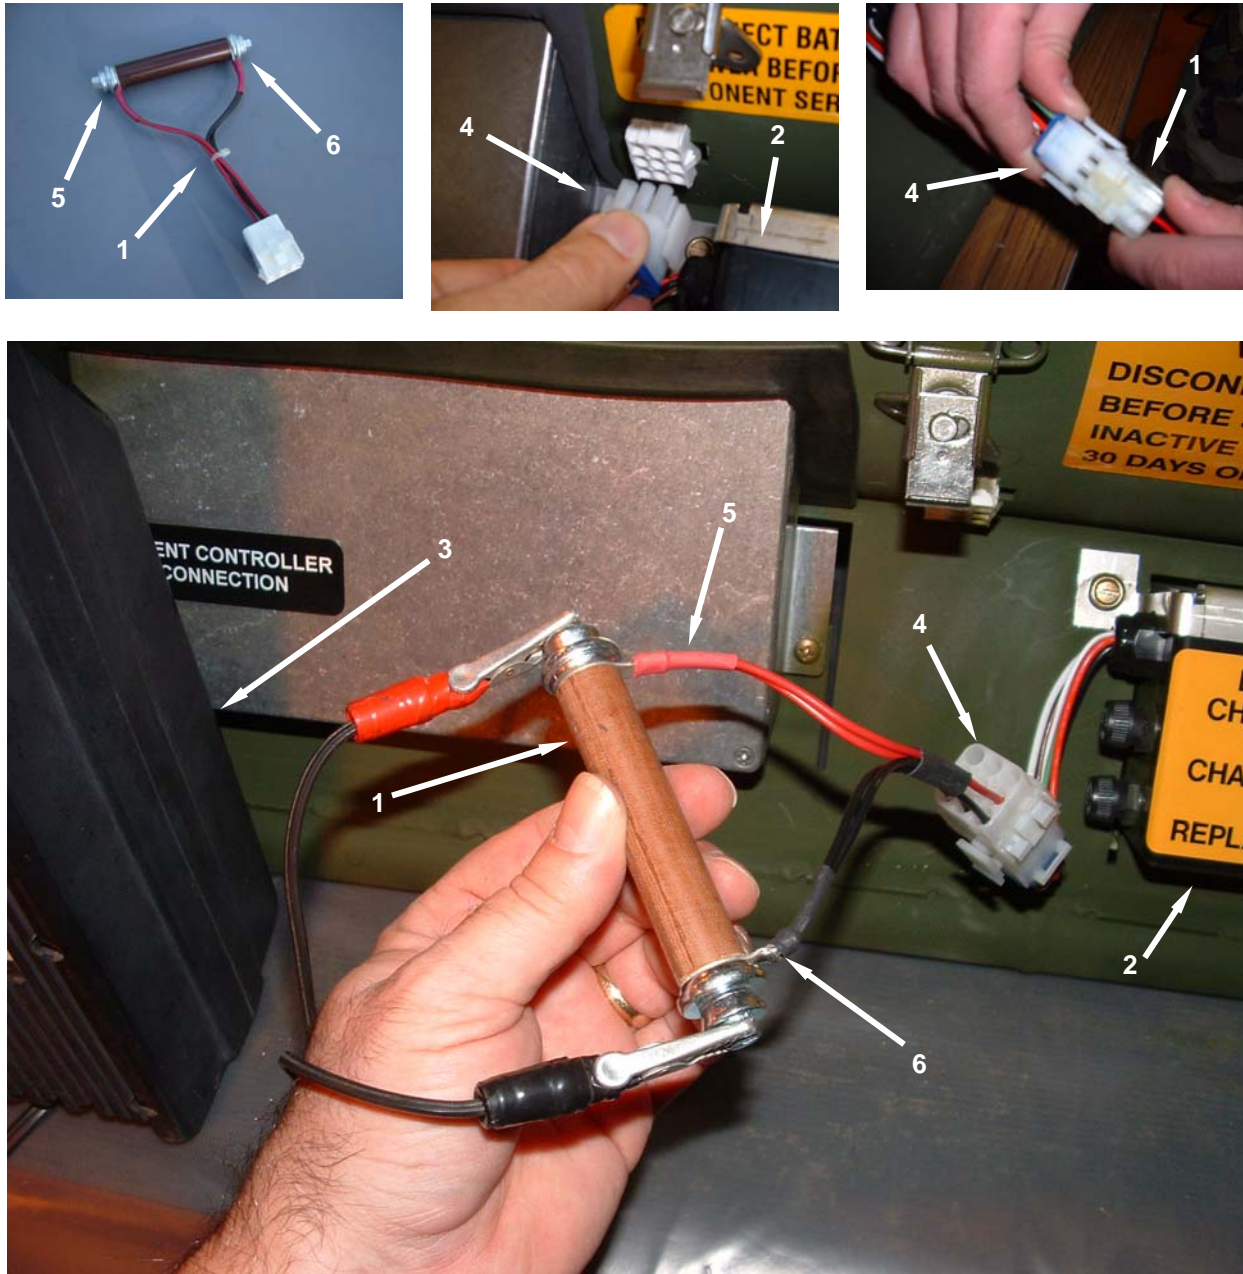

Figure 5. Charging the Battery with an External Charger.
A battery charging adapter (**Figure 5, Item 1**) has been supplied with the heater to permit the connection of a commercial battery charger to the battery pack. If this charging method is necessary, notify unit maintenance.
1. To charge the battery (**Figure 5, Item 2**) with a commercial 115 VAC to 12 VDC battery charger (**Figure 5, Item 3**), disconnect the battery connector (**Figure 5, Item 4**) from the heater and engage the connector on the end of the battery charging adapter (**Figure 5, Item 1**) with the connector on the battery pack.
2. Connect the positive (+) lead of the charger to the red (+) wire (**Figure 5, Item 5**) of the battery charging adapter (**Figure 5, Item 1**) and the negative (-) lead of the charger to the black (-) wire (**Figure 5, Item 6**) of the battery charging adapter.
3. Once the charger (**Figure 5, Item 3**) is connected to the battery charging adapter (**Figure 5, Item 1**) properly, plug the battery charger into an electrical receptacle, and turn on the power to the charger.